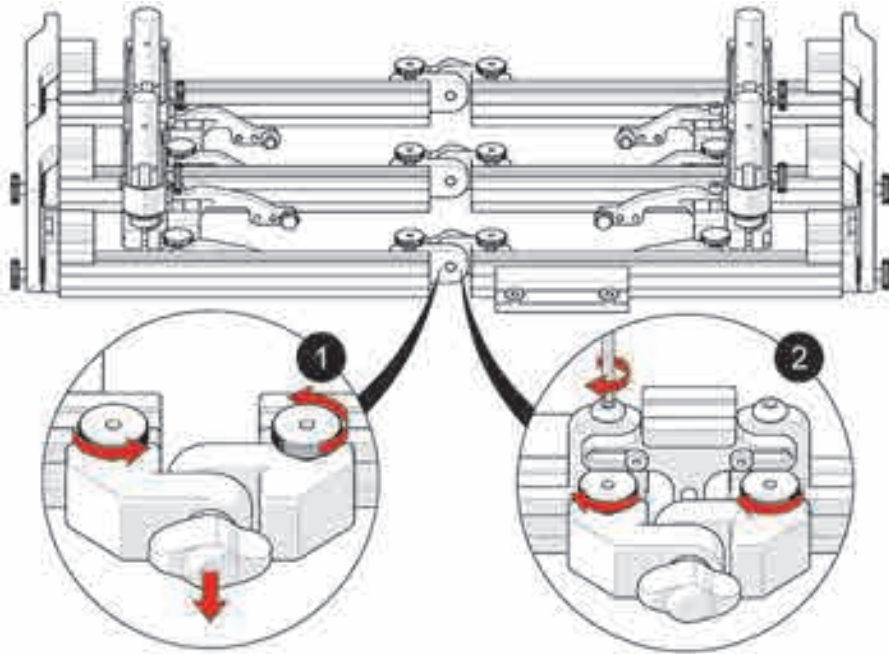

Figure 4-123 Correct probe holder longitudinal adjustment
- Remove the dovetail bar pivot (1) from one of the sets of probe holder racks (see Figure 4-123 on page 186). The choice of which dovetail bar pivot to remove is at your discretion.
- Attach the laser guide pivot mount (2) to the frame bar (see Figure 4-123 on page 186), tighten the dovetail knobs and the dovetail screws. Ensure a flush alignment of the pivot mount and the frame bar to achieve proper centering of the laser guide pivot mount.